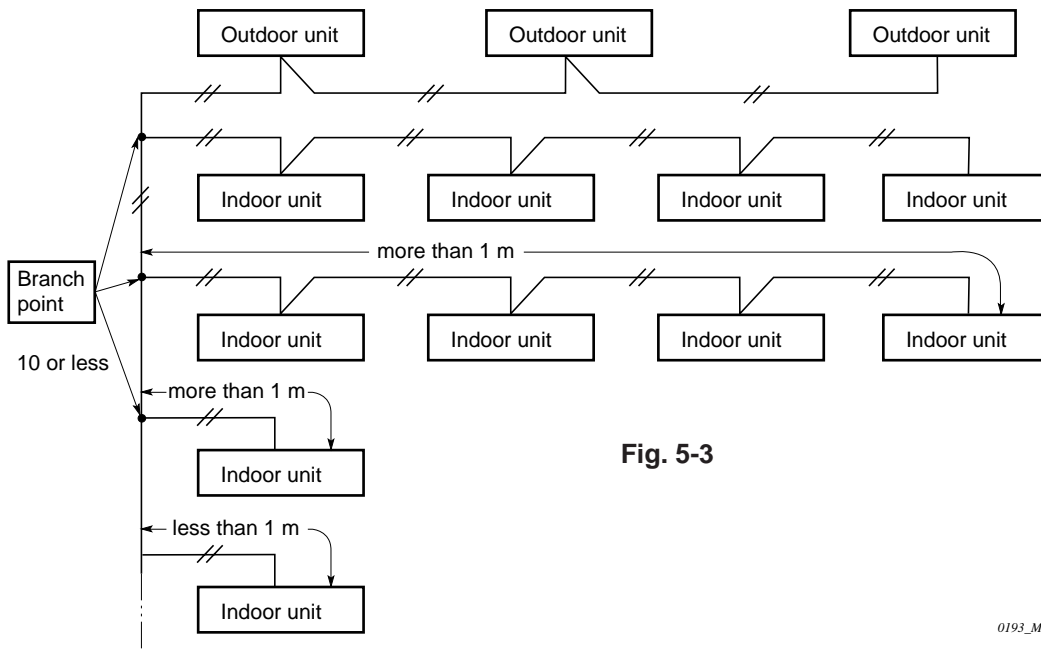

Fig. 5-3
- (4) If branching the inter-unit control wiring, the number of branch points should be 10 or less. (Branches less than 1 m are not included in the total branch number.) (Fig. 5-3)